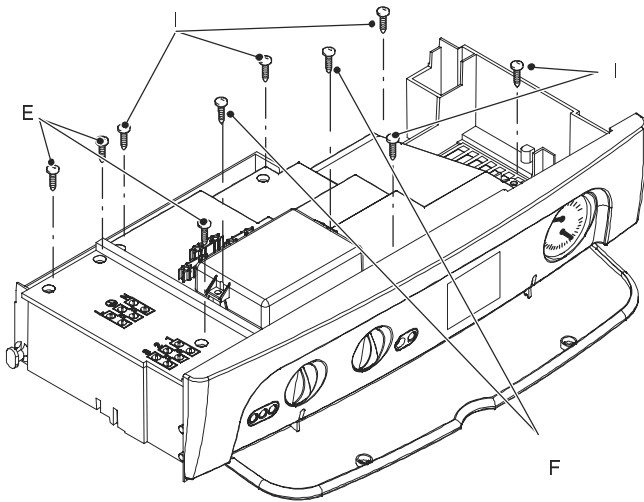

Fig. 2.5
- 5 Remove the screws *E* and remove the service panel (Fig. 2.5);
- 10 Remove the screws *I* and remove the control panel lid (Fig. 2.5);